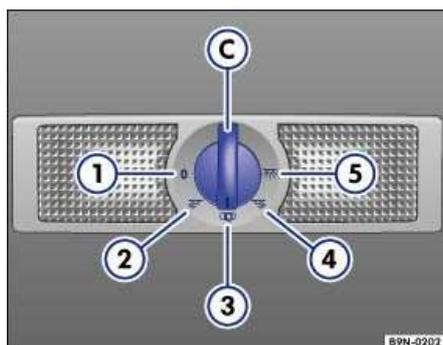

Fig. 41 Roof-mounted rear interior light and reading lights.
You can select the following positions using the switch ⇒ Fig. 41 (C):